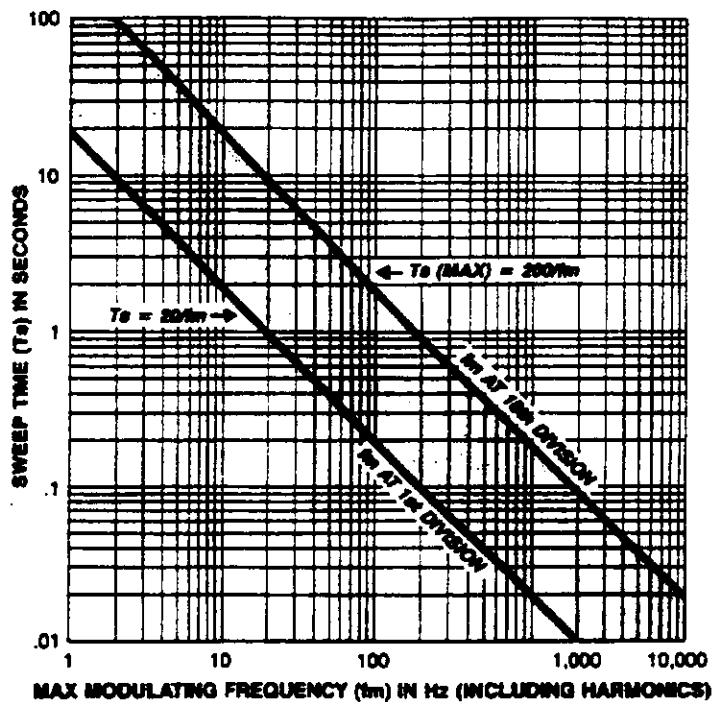

Figure 2-18
- See Figure 2-18, which shows maximum modulation frequency (f_m) in Hz versus sweep time (T_s) in seconds. Set the sweep time less than $T_s(\text{max})$ for that maximum modulation frequency (f_m) including the harmonics of the signal. The upper curve relates the sweep time to the maximum modulation frequency that can be observed (that is, the modulation frequency represented by the right edge of the graticule). The lower curve represents the modulation frequency one division from the left side of the graticule.